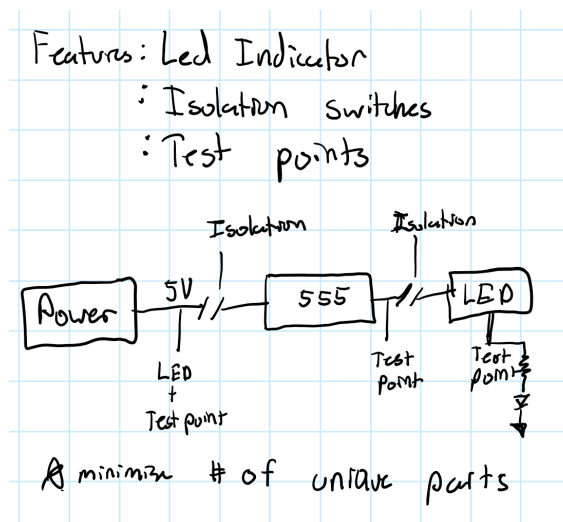

Figure 1: Block Diagram for Board 1
- We were given a board with three closed-loop configurations: Common return for the victim line, Separate return for the victim line, and Ground plain return. (Figure 1)